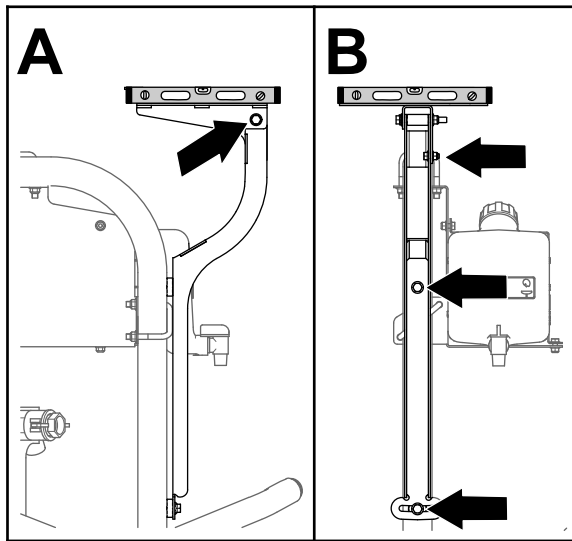

Figure 155
3. Level the receiver plate left to right (Figure 155).
5. Level the receiver plate front to back (Figure 155).